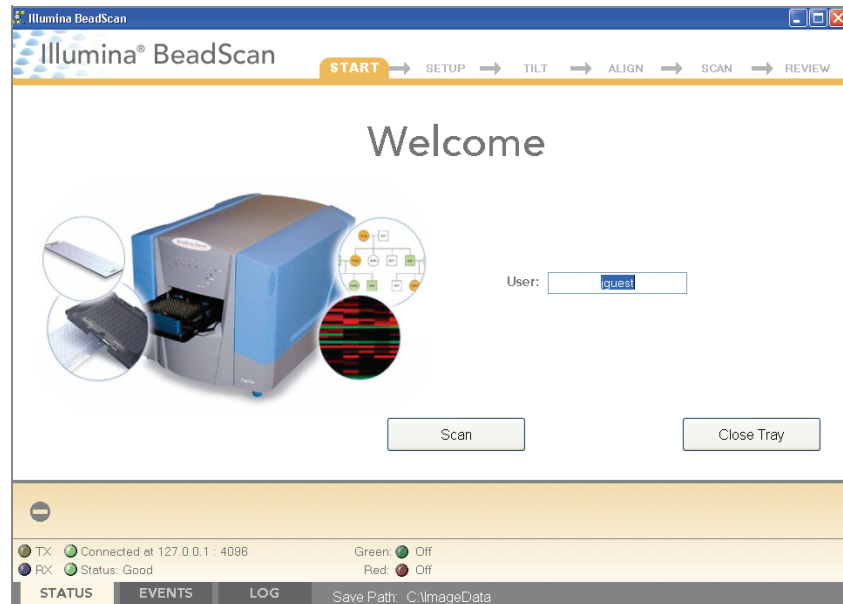

Figure 211 BeadScan Welcome Screen
4. (Illumina LIMS only) Log in and click **Scan** (Figure 211).